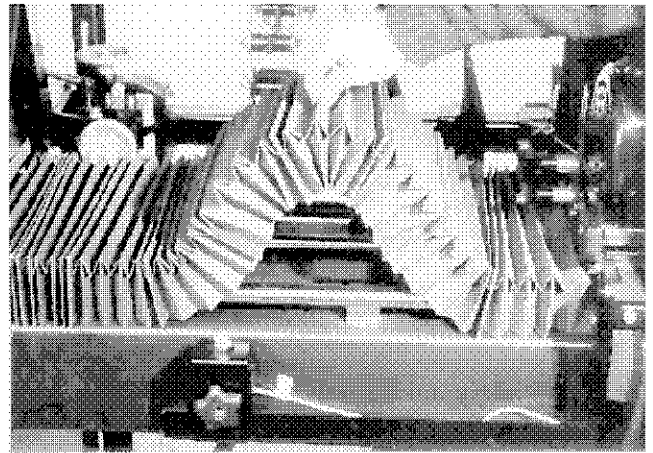

FIG. 15
STEP 2--Flood spray the two shafts with a spray lubricant (**do not use a teflon based lubricant**) until the lubricant is dripping off the shafts. See FIG. 15 Then run the carriage back and forth through its range of travel. This will carry the lubricant into the bearings.